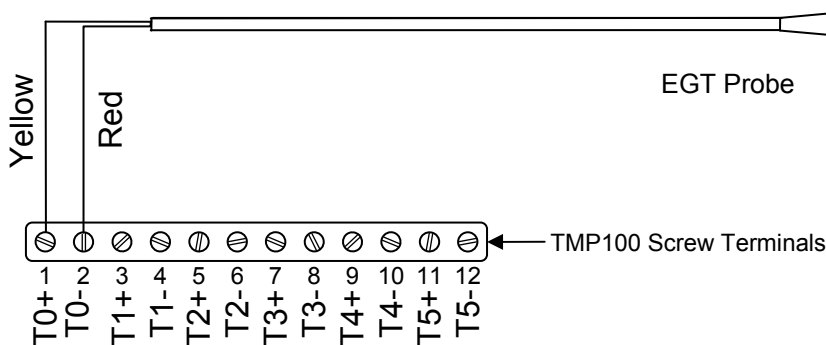

Figure 1 – Wiring Diagram
Please follow these instructions to connect the TP-EGT-1 exhaust gas temperature probe to the NMEA 2000® network via a Maretron TMP100 Temperature Module. The wiring diagram appears in Figure 1 below. The diagram shows a connection to channel #0, but connections to other channels are similar. Please note that the TP-IP-1 may be connected only to channels #0 and #1. It may not be connected to channels #2, #3, #4, or #5.
4. The TP-EGT-1 cable contains one yellow and one red wire. Connect the red wire to the appropriate Tx terminal on the TMP100 as shown in Figure 1 below.
5. Connect the yellow wire to the appropriate Tx+ terminal on the TMP100 as shown in Figure 1 below.